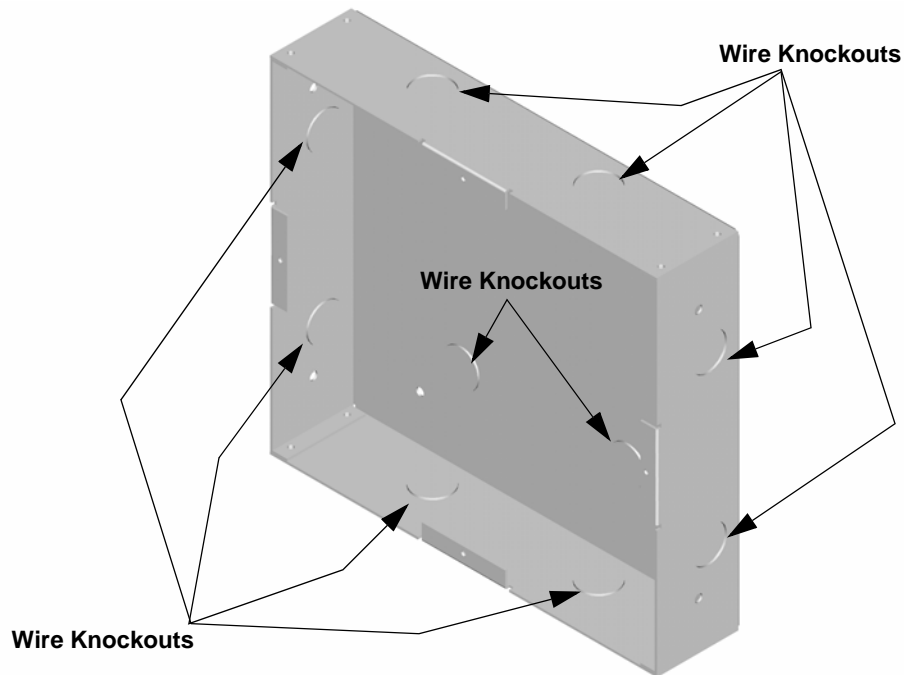

Figure 4-23 Back Box Knockout Locations
2. Remove knockout holes as needed for wires. See Figure 4-23 for backbox knockout locations.